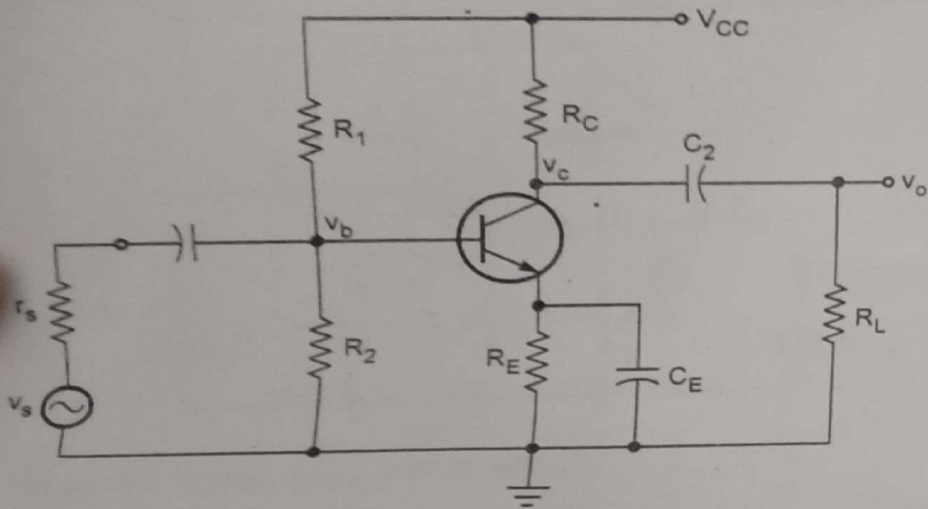

Fig. Q.17.1 CE amplifier
Ans. : • Fig. Q.17.1 shows the common emitter (CE) amplifier circuit.